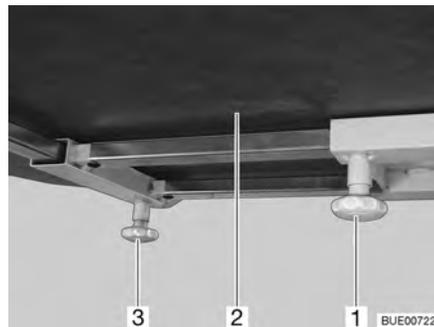

Fig. 90 Fixed table
Moving in a lengthways direction: ■ Loosen knurled screw (Fig. 90,1).
■ Move table-top (Fig. 90,2) to the desired position.
Moving in a crossways direction: ■ Loosen knurled screw (Fig. 90,3).